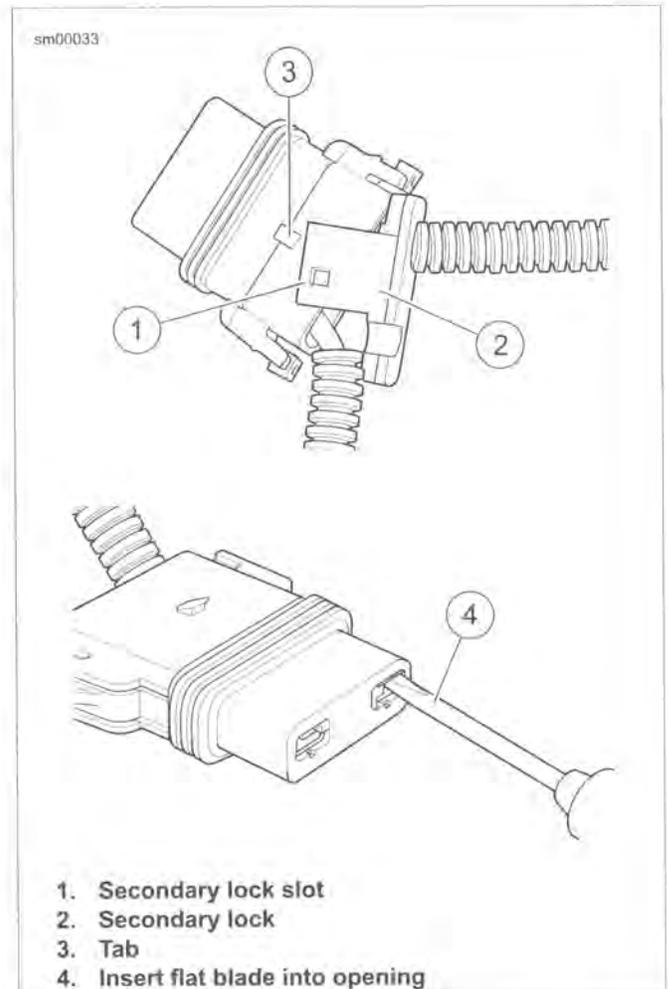

Figure A-19. Delphi 800 Metri-Pack Sealed Main Fuse Housing: Remove Socket Terminals
2. See Figure A-19. Disengage slots (1) on secondary lock (2) from tabs (3) and remove secondary lock.
3. Insert flat blade of pick or small screwdriver into opening (4) until it stops.